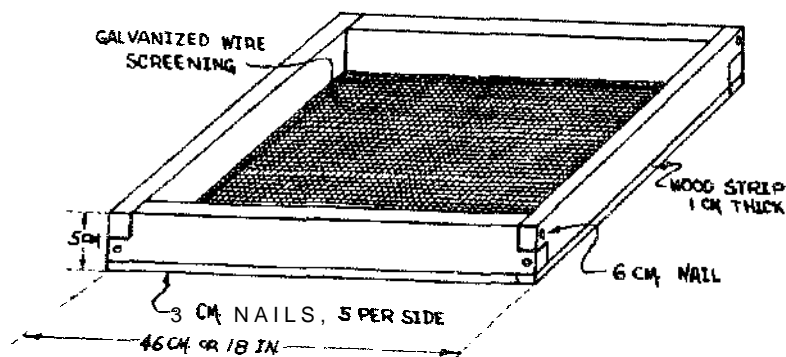

FIGURE 1
- o Waterproof chest that **will** keep out vapor, to dry and store the grain. A steel drum or sheet metal cabinet would be good. A wooden chest can be used if it is vapor-proof, as in Figures 1, 2, and 3.